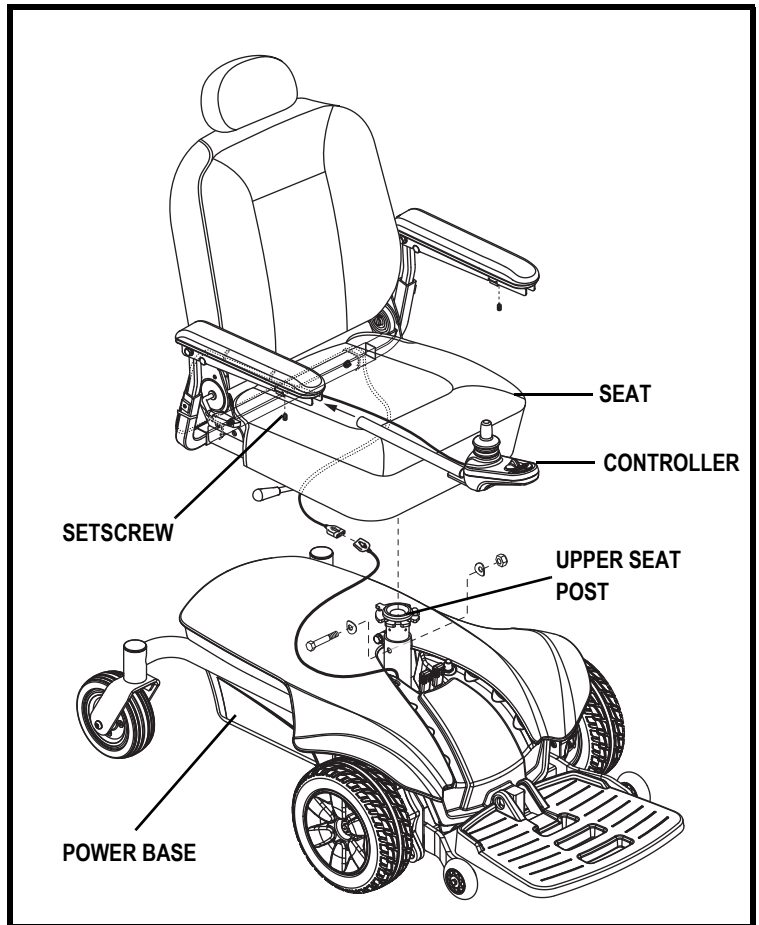

Figure 10. Seat and Controller Assembly
1. Adjust the upper seat post to the desired position and insert the bolt through the seat post and secure with the nut. See figure 10.
2. Slide the seat down onto the upper seat post. See figure 10.
3. Install the controller into one of the armrests. Tighten the setscrew with the supplied hex key. See figure 10.
4. Lift the armrest straight up, then route the controller harness and secure with wire ties as shown in figures 10 and 11.